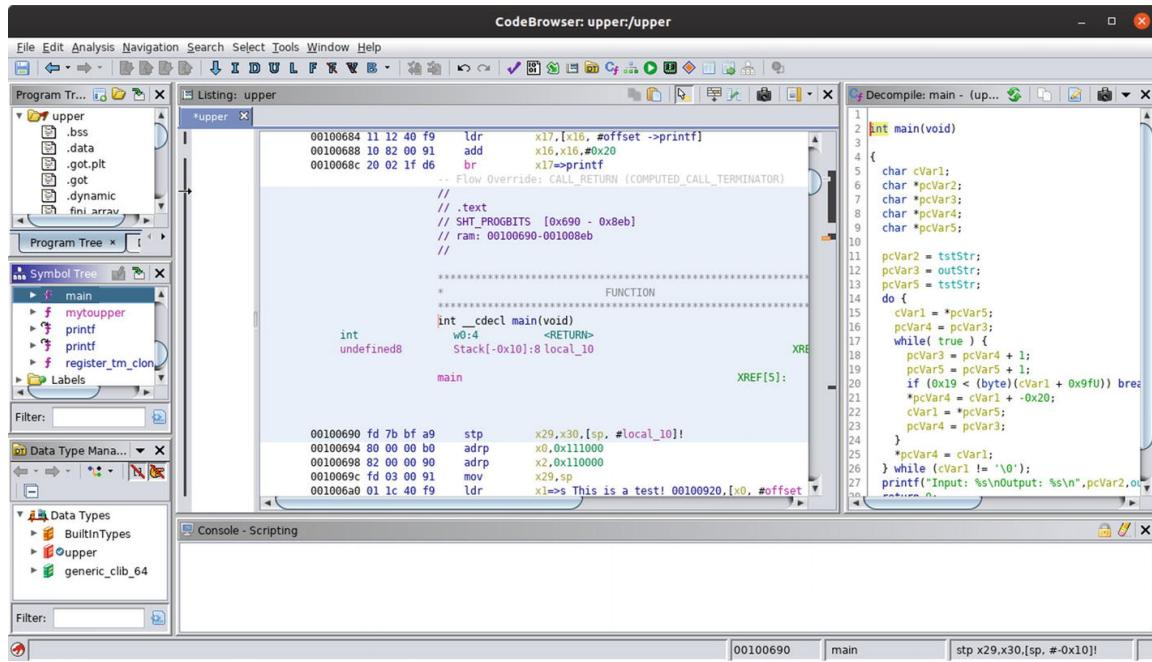

Figure 15-2 Ghidra analyzing our upper program
3. Right-click the upper executable and select “Open with default tool”. This opens the code analysis window. Click Yes when asked if you want the code analyzed and accept the defaults at the next prompt. Figure 15-2 is the resulting code analysis window. You need to click main in the symbol tree to get the source code to appear.